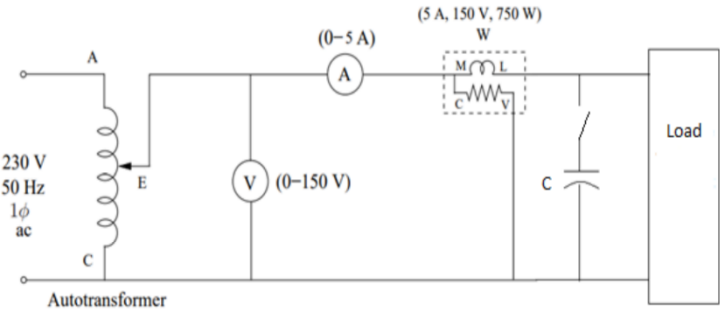

Fig.3: Circuit Diagram
1. Connect the circuit diagram as per fig. 3.